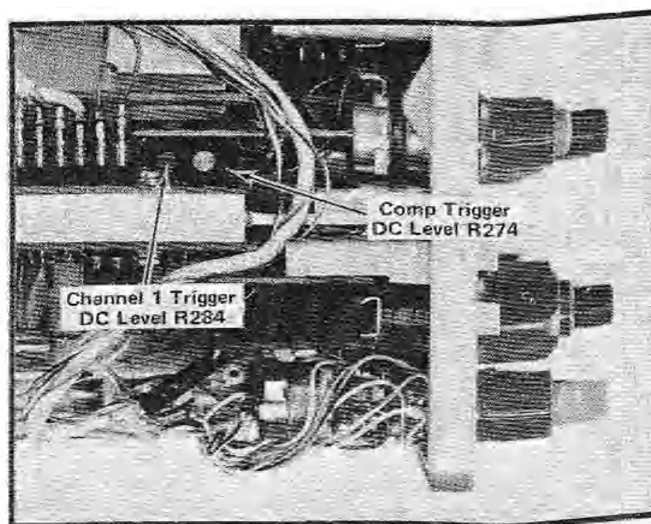

Fig. 5-11. Location of trigger DC level adjustments.
c. ADJUST—Comp Trigger DC Level adjustment R274 (see Fig. 5-11) for a stable display.
- f. ADJUST—CH 1 Trigger DC Level adjustment R284 (see Fig. 5-11) for a stable display.